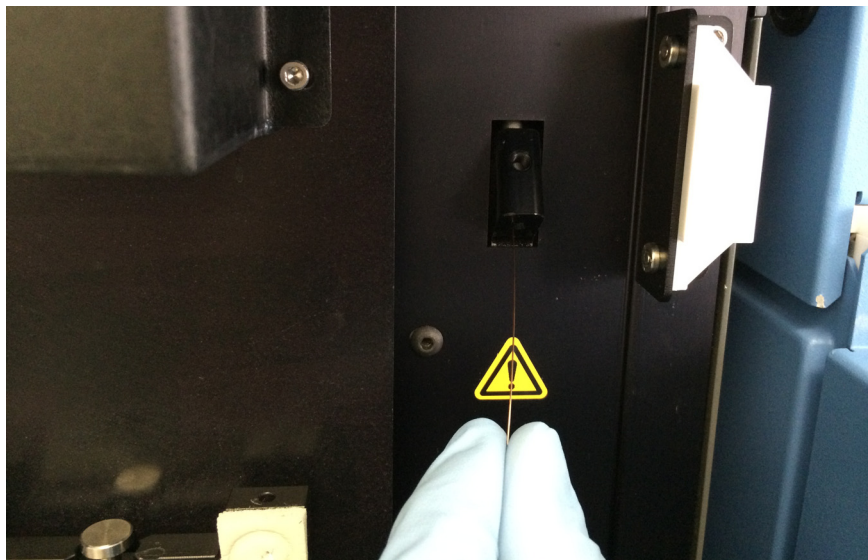

Figure 4-24: Inserting the transfer capillary into the capillary guide.
6. Thread the transfer capillary through the capillary guide (Figure 4-24).